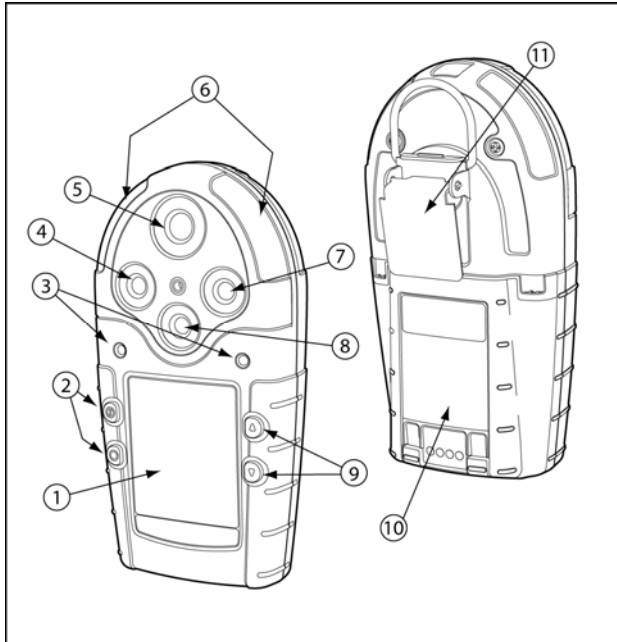

Figure 1. GasAlertMicro 5/PID/IR Detector
- Figure 1 and Table 3 describes the detector components